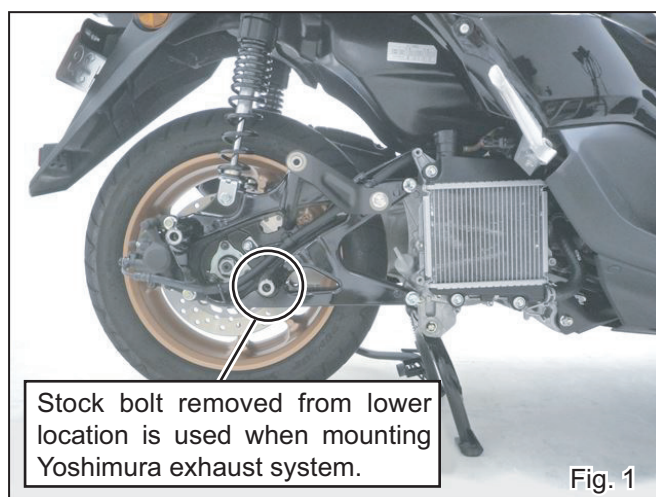

Fig. 1
- 3) Disconnect O2 sensor coupler and unhook its wire from vehicle. Then, remove stock exhaust system from vehicle. (See Fig. 1)
CAUTION Use stock bolt with L45 (See Fig. 1)